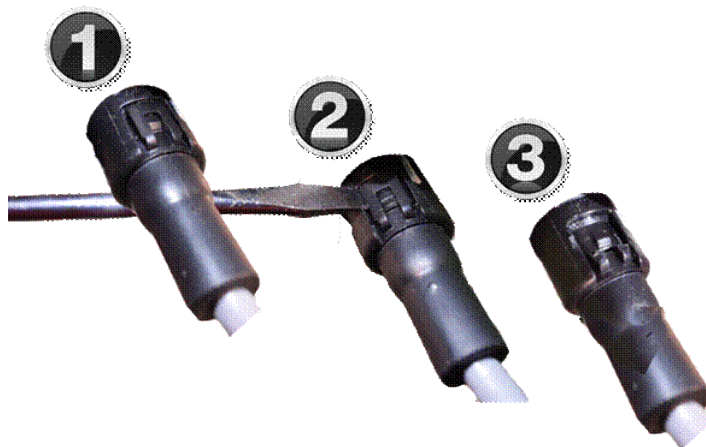

Figure 3. Locate locking tab (1), lift up on tab with screwdriver (2), snap tab off (3).
4. Remove the original harness from the reverse camera (Figure 3):